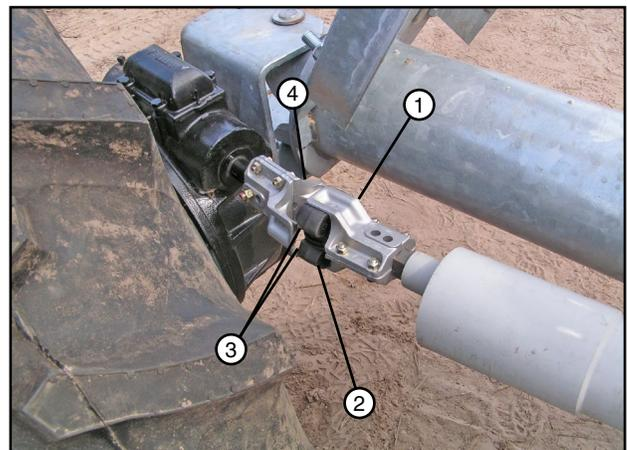

Figure 35-2 1. Drive Shaft U-Joint Half
3. As the tire is turned to the operating position, align the drive shaft u-joint half and flex joint chamfered corners with the wheel gearbox u-joint half. See figure 35-2.
Continue pushing the tire toward the operating position with enough force to push the gearbox u-joint half over the flex joint. See figure 35-2.